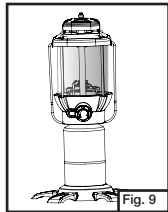

Fig. 9
- Place cylinder securely in lantern base. (Fig. 9)